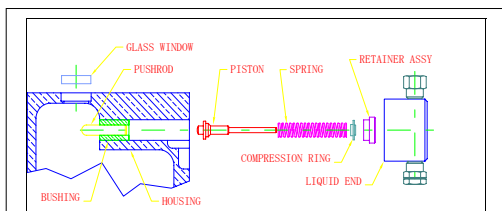

Figure 1: Pump Assembly
3. Remove liquid end from pump as follows: Unscrew the two socket head bolts (with the 5/32 hex key) while holding the liquid end against the pump housing. Pull the liquid end straight out from the pump housing, in line with the axis of the piston. If you cock or tilt the liquid end, you may break the piston. See Figure 1.